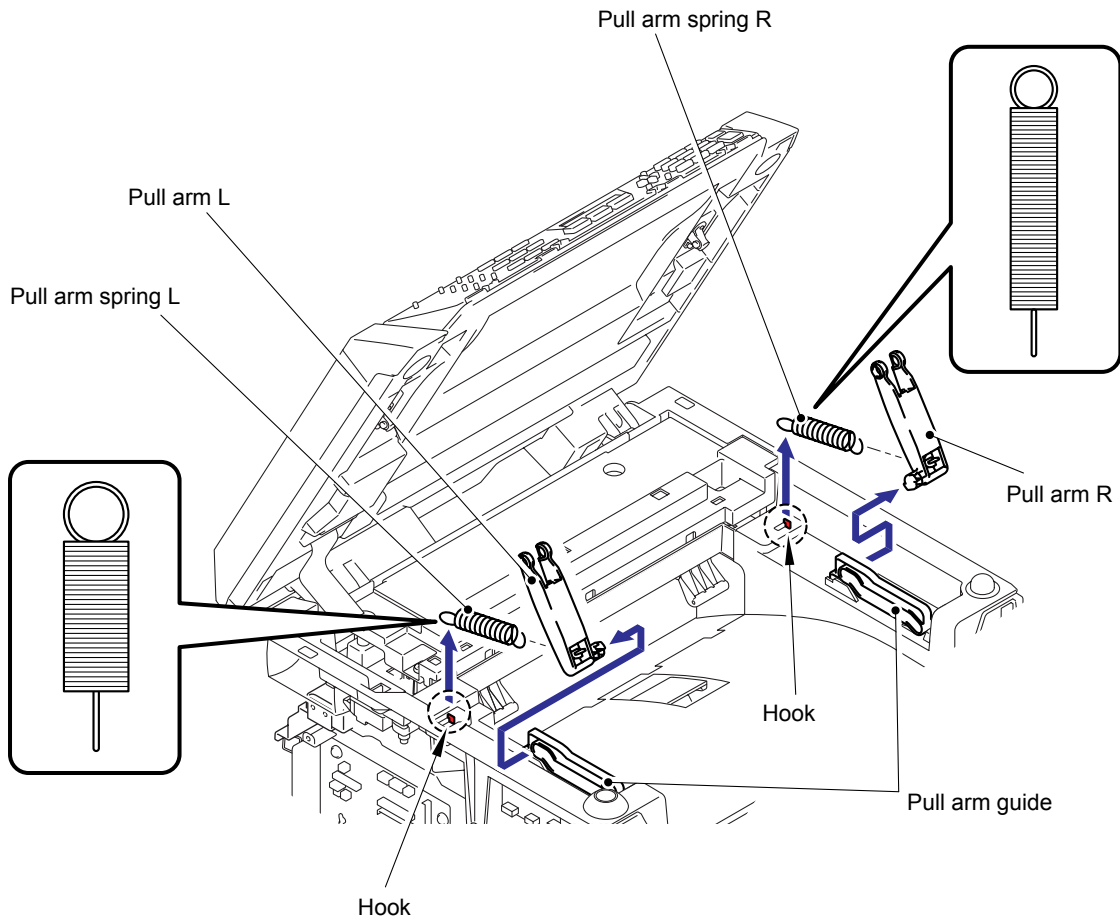

Fig. 5-163
- When assembling the Pull arm springs Left and Right, be sure to assemble each of the Pull arm spring correctly. (Left is shorter and thicker and Right is longer and thinner) See Fig. 5-163.
- (6) Remove the Scanner unit from the Joint cover ASSY by lifting upwards.